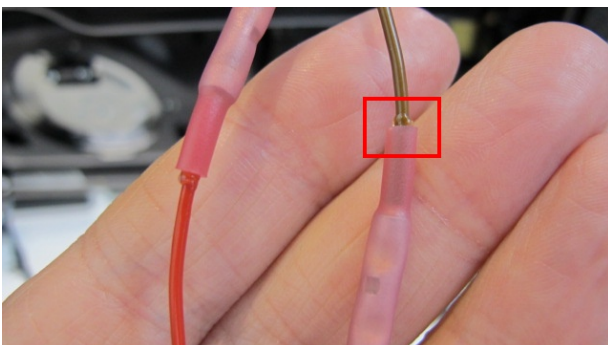

Figure 20
- Using heat gun WT10078 or similar carefully heat and shrink both ends of each splice, the splice should be heated from the centre outwards until it is fully sealed which is indicated by the flow of adhesive from both ends Figure 20 shows an example of this